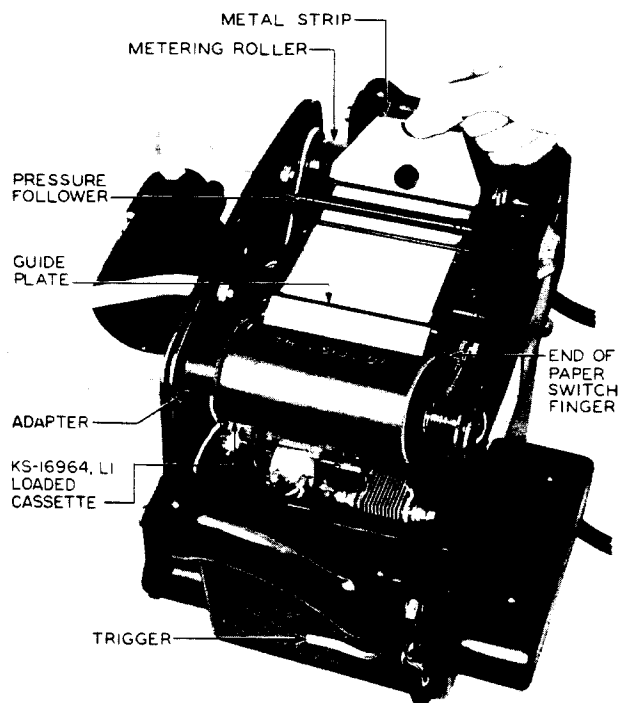

Fig. 7 – Loading Camera
1.19 In order to use the KS-16964 L1 loaded cassette, it is necessary that the camera be equipped with an adapter which is mounted on the fixed pin at the trigger side of the camera as shown in Fig. 7. A locating pin on this adapter enters a corresponding hole in the end of the cassette to hold the cassette in the proper position during withdrawal of the paper. Procedures for mounting the adapter are covered in Section 030-301-801. KS-16148 loaded cassettes may also be used in a camera equipped with the adapter.
4.08 Draw paper from the loaded cassette over the end-of-paper switch finger and under the guide plate, as shown in Fig. 7. Then, in order to break the internal seal provided in the KS-16964 L1 cassette and to facilitate threading the paper into the take-up cassette, firmly draw the end of the paper about 10 inches beyond the metering roller, taking care not to tear the paper. Lower the pressure follower to its position holding the paper against the metering roller.